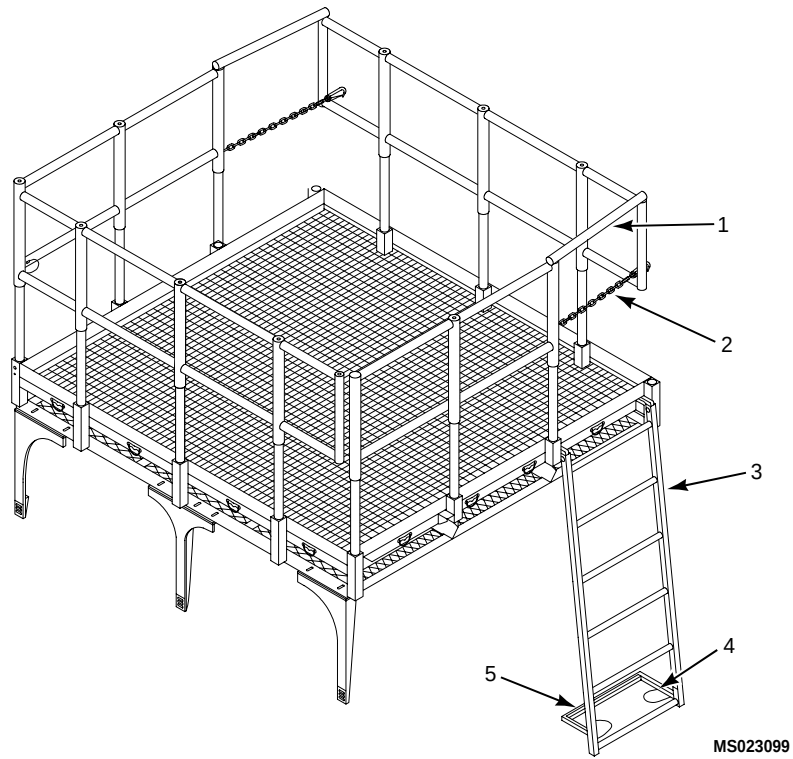

Figure 8. Installation of Ladder and Handrail Assemblies
16. Insert ladder (3), hooks up, into slots in Overhead Rack Assembly. Ensure that stabilizer bar (5) is folded out toward vehicle. Install locking pins (4). (Figure 8)
19. Attach safety chains (2) and safety bars (1) of each side rail assembly to appropriate handrail assembly. (Figure 8)